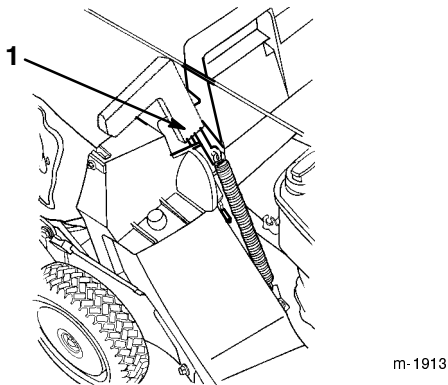

Figure 15
5. Pull the discharge door handle forward until the pin clears the catch, and move the handle rearward until the pin locks in the bag notch (Fig. 15).